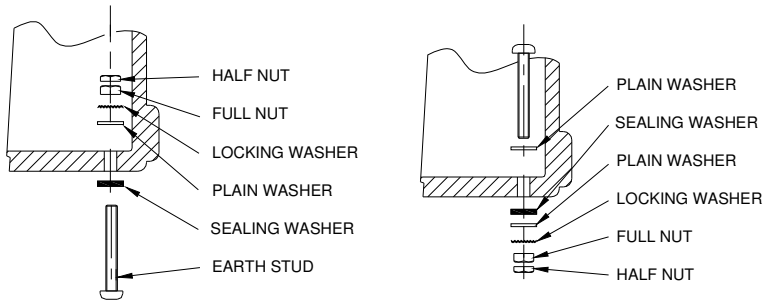

Figure 2 - Internal and external earth bonding stud arrangements
- If two metal glands are to be used: remove one of the two Earth Bonding screws and re-assemble as shown in Figure 2 below to give an external stud. The earth stud is provided as suitable termination point to ensure earth continuity between cable glands. Note that it is the installer's responsibility to ensure the correct fitting of the glands (see section 2.1 above).